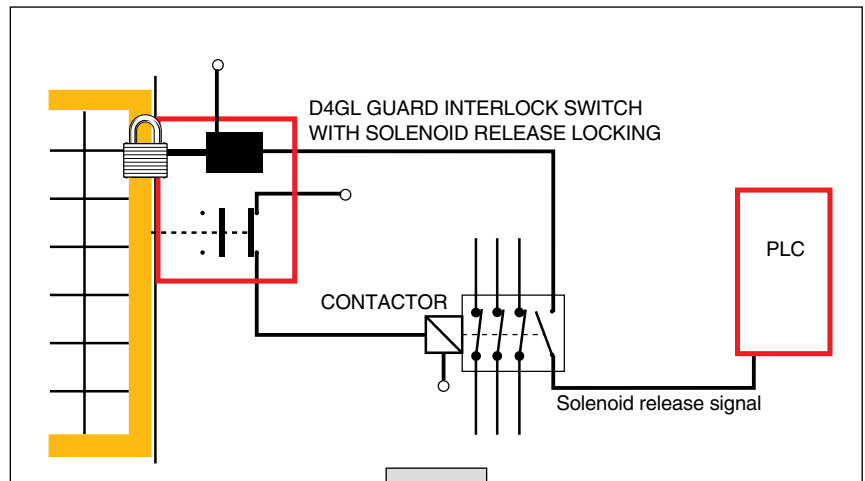

Fig. 2.15
**3. Programmable System Controlled Guard Locking Devices** (see Figure 2.15)